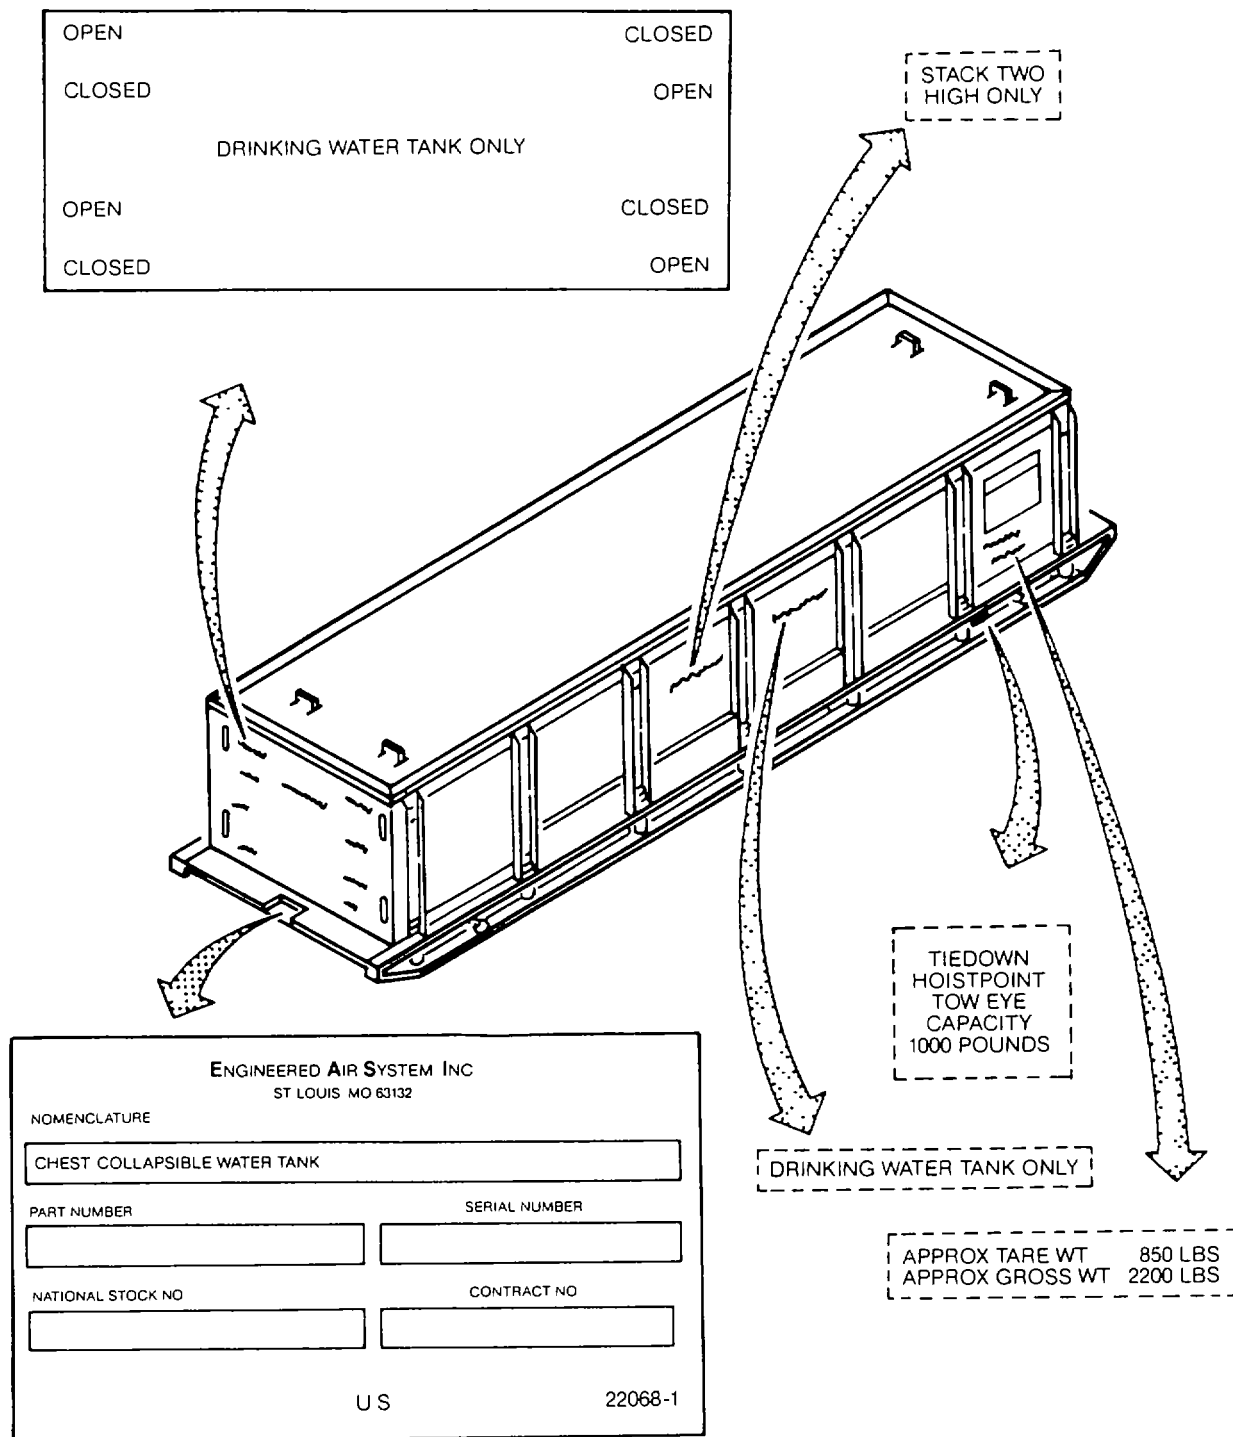

Figure 2-25. Decals and Instruction Plates.
- f. Water Tank Chests. Refer to figure 2-25 for decals and instruction plate on the tank chests.